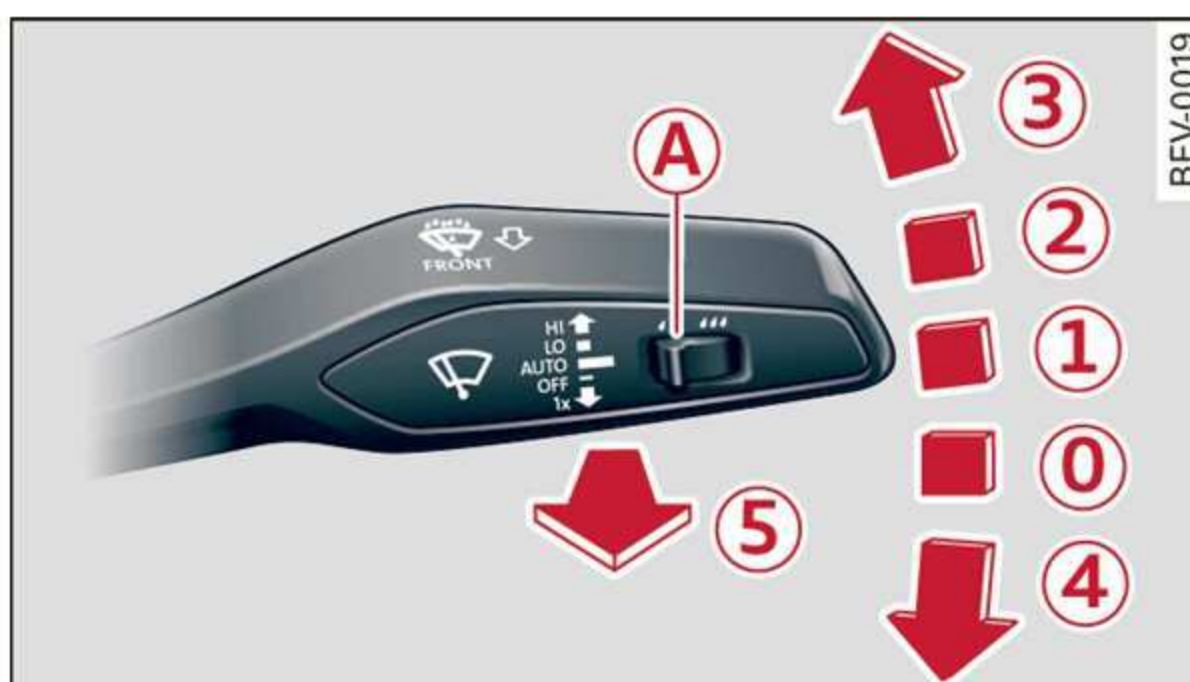

Fig. 44 Windshield wiper lever
- ▶ To bring the windshield wipers into the service position, turn the ignition off and move the windshield wiper lever into position ④ ⇒ page 42, fig. 44.
- ▶ To bring the wipers into the starting position, turn the ignition on and move the windshield wiper lever into position ④ for at least two seconds ⇒ page 42, fig. 44.